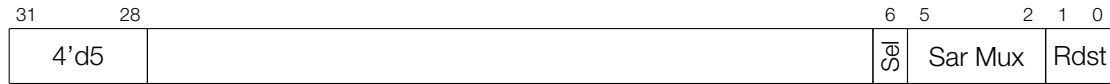

Figure 166: Instruction Type – ADC
**Operand**    **Description** - see Figure 166